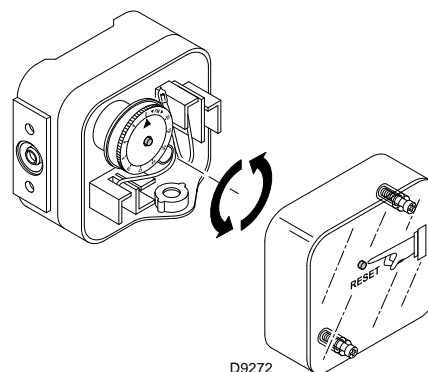

Fig. 35
- Adjust the maximum gas pressure switch (Fig. 35) to the end of the scale.
Adjust the maximum gas pressure switch (Fig. 35) after having performed all other burner adjustments with the maximum gas pressure switch set to the end of the scale.